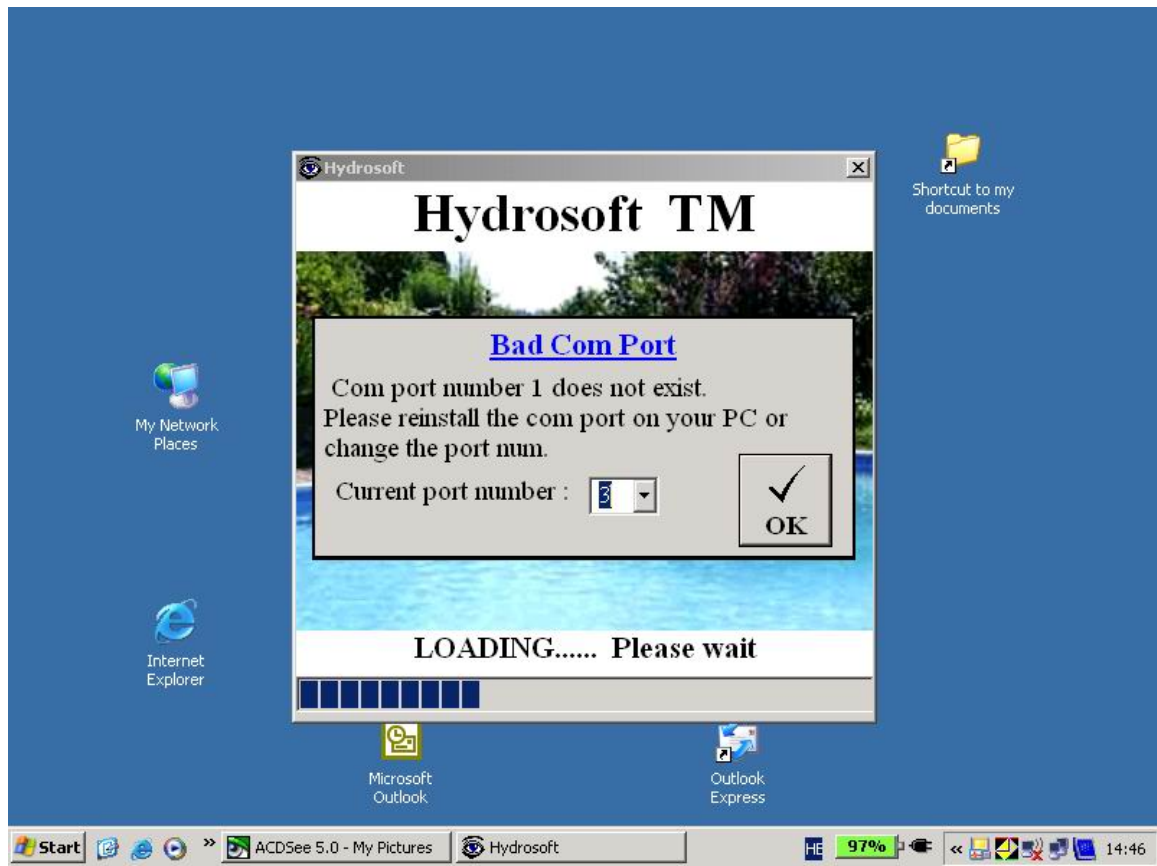

Figure 3: Incorrect COM Port Selection Error
- a. You will receive an error (figure 3) and in some cases the program may shut down.